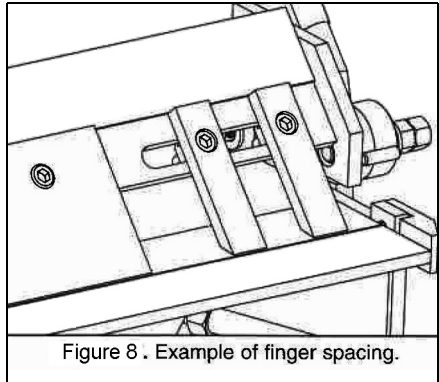

Figure 8 . Example of finger spacing.
2. Remove the fingers and toe clamps from the clamping leaf, as shown in Figure 8, and set them aside.